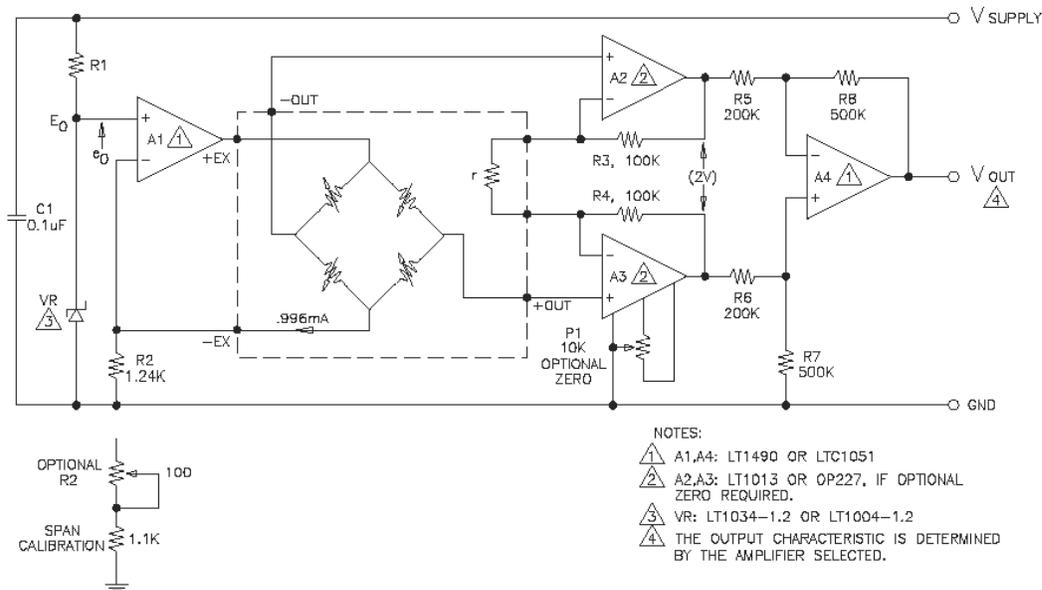

Figure 2 – Simple Signal Conditioning Circuit
The signal conditioning circuit shown in Figure 2 provides a precision constant current source for sensor excitation and an instrumentation amplifier with the gain programmed by sensor feedback resistor r. To correct for pressure non-linearity or to generate output options other than 0-5V please refer to Technical Note AN-001, "Signal Conditioning Circuit, Popular Outputs using On Board Gain Adjust Circuitry"
If additional calibration and normalization are desired, resistor R2 can be replaced with a series combination of a potentiometer and a resistor (Figure 2). The potentiometer can be adjusted to set the bridge excitation current (I) to achieve the exact span voltage (S) with full scale pressure applied to the sensor.